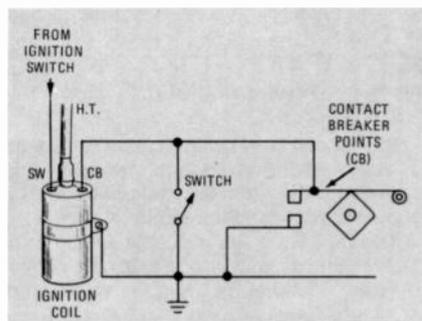
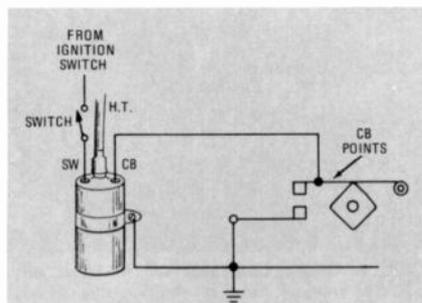
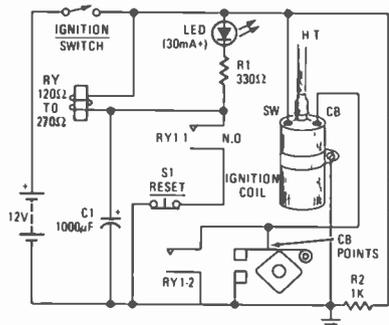

FIG. 1—IMMOBILIZER operates by shorting contact breaker points.
FIG. 2—IGNITION IMMOBILIZER operates by disabling vehicle's ignition circuit.
FIG. 5—SELF-ACTIVATING IMMOBILIZER circuit for vehicles with -V ground systems. For vehicles with +V grounded, reverse the polarities of C1 and the LED.
Simple immobilizers consist of a concealed switch wired into some part of the electrical section of the vehicles power unit. Figures 1 and 2 show how immobilizers can be wired into the vehicle's ignition system. In Fig. 1, the switch is wired between the chassis and the vehicle's contact breaker (CB) points.
The circuit shown in Fig. 2 has the immobilizer switch wired in series with the vehicle's ignition switch, so that the engine can operate only when the switch is closed. The protection of this circuit is inferior to that of Fig. 1 since the thief can bypass the immobilizer and the ignition switch by simply hooking a wire from the battery to the sw terminal of the coil.
operates only when the switch is closed. This system gives better protection than Fig. 2, but is not as good as Fig. 1 since the starter solenoid can be operated manually on many vehicles and also because the starter and immobilizer switches can be bypassed by a single length of wire.
A major weakness of the circuits shown in Figs. 1 to 4 is that they must all be turned on and off manually so they give protection only if the owner remembers to turn them on each time he leaves his car. Figure 5 shows an immobilizer circuit that turns on auto-
The relay used in the Fig. 5 circuit